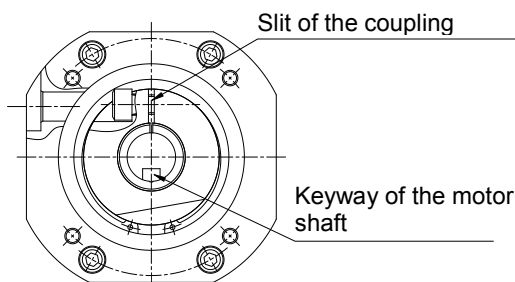

Fig. 5-9
- If the motor shaft has a keyway, set the motor so that the keyway of the motor shaft is positioned on the opposite side of the slit of the coupling (see Fig. 5-9) and then insert the motor.